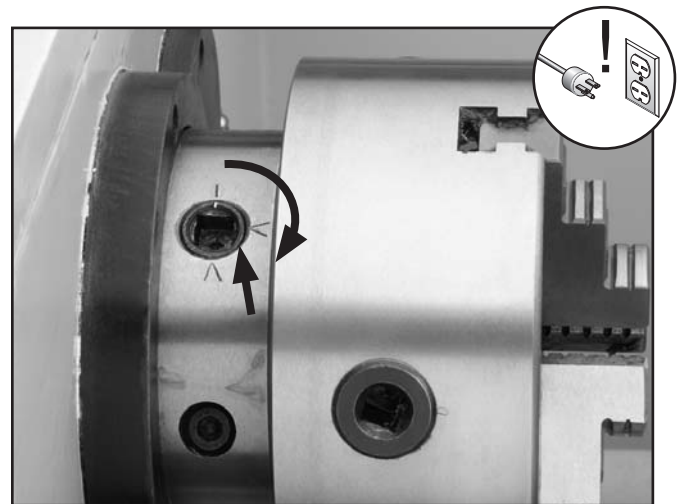

Figure 20. Tightening the cam-locks.
8. Tighten each cam-lock clockwise until you feel the cam-lock engage the cam-lock stud. Continue to turn until you can't turn any further. You will see the chuck body draw-up to the spindle nose. Ideally the cam-lock mark will fall between the two pointed arrows on the spindle nose (see **Figure 20**).